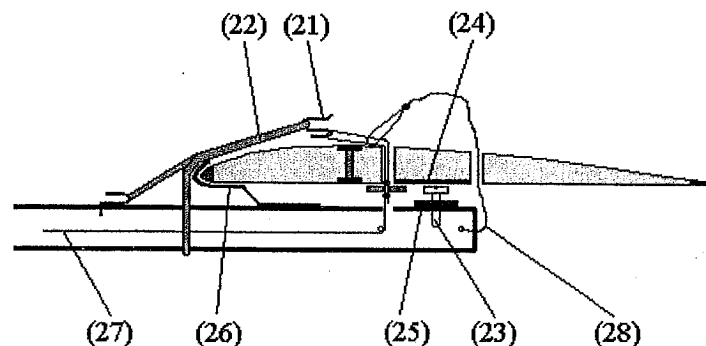

Figure 11. Fixing of Horizontal Stabilizer onto the Fuselage during the Flight
By making use of elements belonging to the theory of joints (*figure 11*), the "S" shape hook (21) will get interlocked to the dethermalizing rubber (22) by means of a "Prusik" knot or "capstan" used in mountaineering.